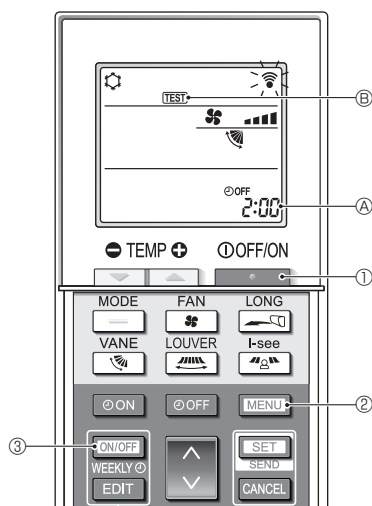

Fig. 7-5
■ Test run (Fig. 7-5)
- Press the [ON/OFF] button ① to stop the air conditioner.
- If the weekly timer is enabled (WEEKLY is on), press the [ON/OFF WEEKLY] button ③ to disable it (WEEKLY is off).
- Press the [MENU] button ② for 5 seconds.
- Press the [MENU] button ②.
- TEST ⑥ comes on and the unit enters the test run mode.